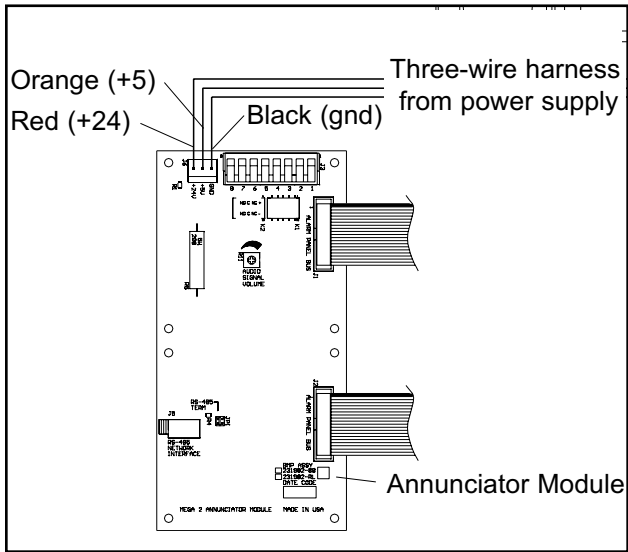

Figure 26: Power Supply Output Testing
3. Using a digital volt meter, measure DC voltage between black (-) and orange (+) wires where power supply harness plugs into annunciator module (Figure 26).